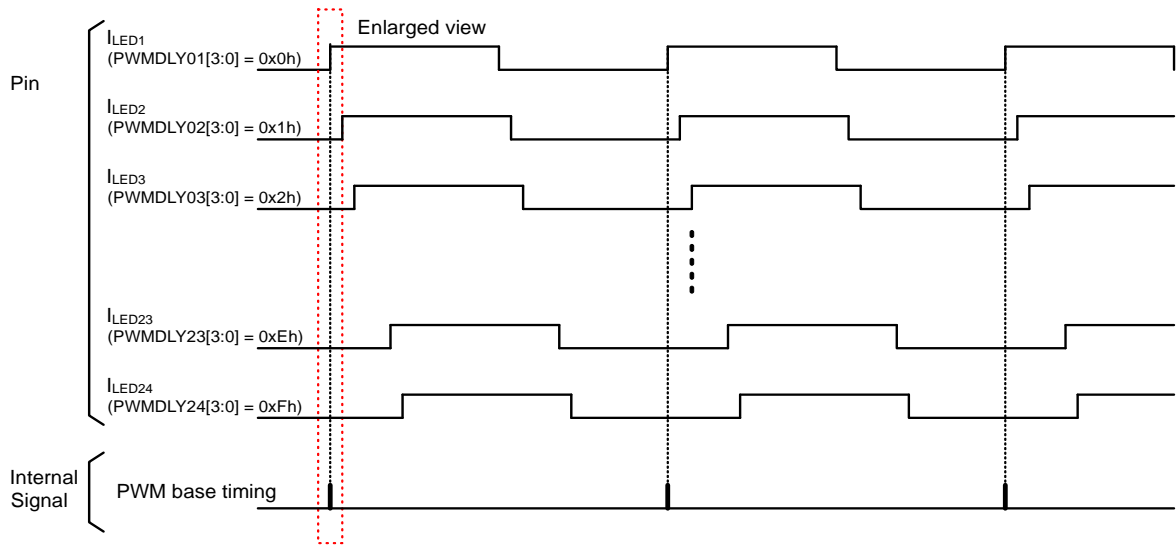

Figure 51. PWM Delay Setting
- PWMDLYn[3:0]: refer to Figure 51.